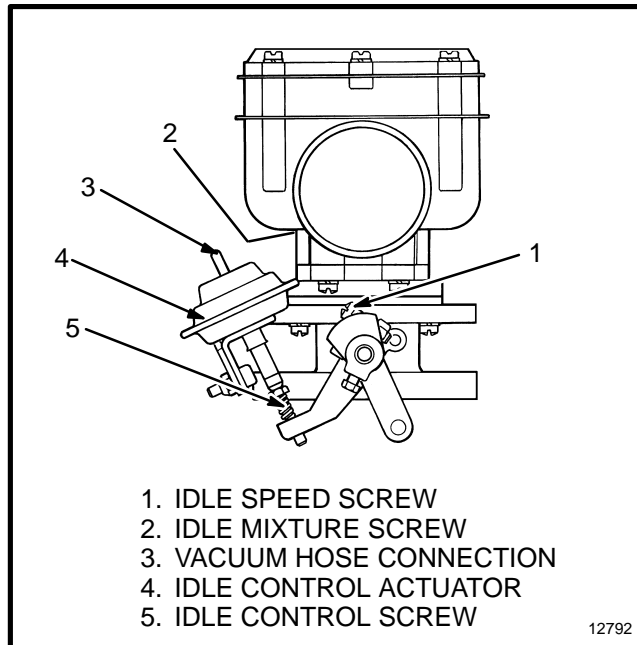
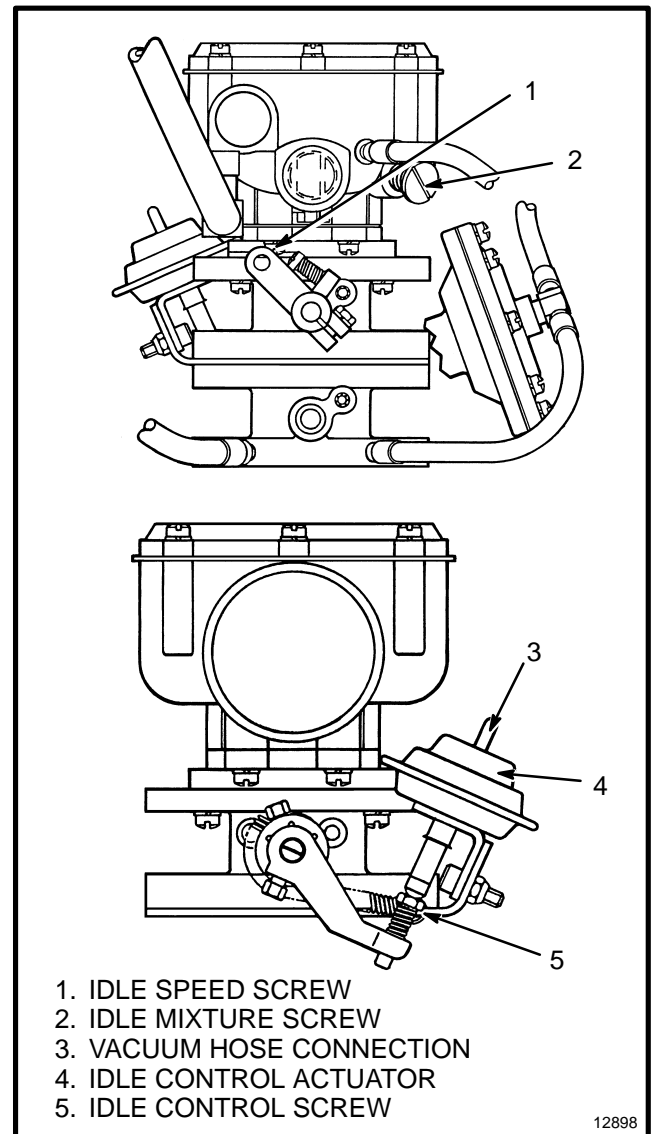

FIGURE 15. CARBURETOR ADJUSTMENTS,
FIGURE 16. CARBURETOR ADJUSTMENTS,
**(See FIGURE 15. And FIGURE 16.)**
2. Turn the idle speed screw (1) until the engine speed is  $900 \pm 50$  rpm for the 2.2L engine or  $800 \pm 25$  rpm for the 3.0L engine.
3. Changing the adjustment of the idle mixture screw (2) will change engine speed. Adjust the mixture screw (2) for maximum engine rpm.